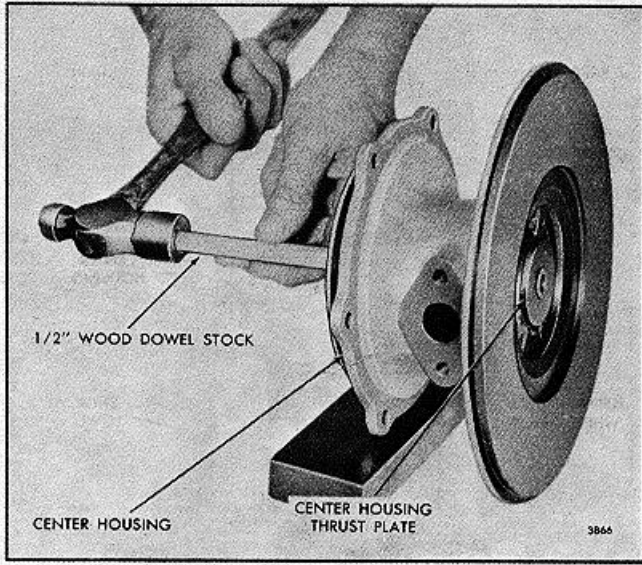

FIG. 18 - Removing Center Housing Thrust Plate
8. Support the center housing on edge on the work bench (Fig. 18). Then insert a 1/2 " wood dowel approximately 8" long through the shaft bearings and against the thrust plate. Tap the thrust plate out of the center housing with a hammer.